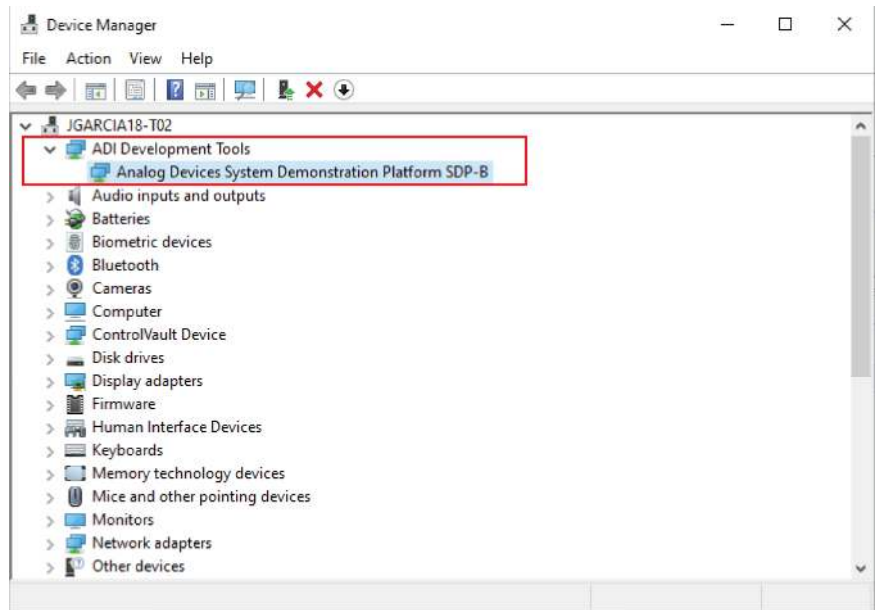

Figure 2. Hardware Device Manager Window with the EVAL-SDP-CB1Z Board Plugged In
4. When the software detects the evaluation board, you can start using it. Check that the computer recognizes the development board through the **Device Manager**, as shown in Figure 2.